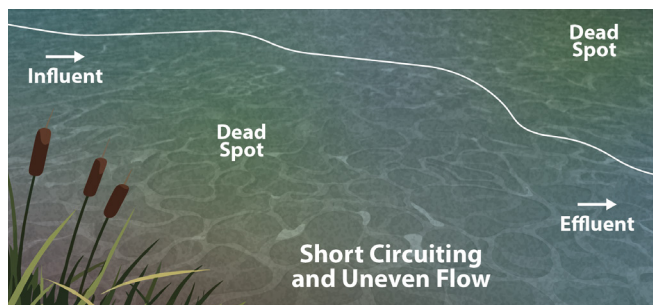

Figure 15. Lagoon Short Circuit Design
- **Problem:** Inadequate flow distribution can result in short circuiting, where wastewater flows through the lagoon too quickly, bypassing treatment zones, or flows unevenly through the lagoon (Figure 15).